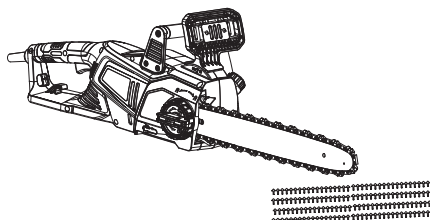

Fig. 11
1. Make sure the guide bar (9) and the saw chain (8) are in place when you check the oil delivery.
2. Start the product; keep it running at no load and check if the chain oil is delivered as shown in the figure (Figs.11, 12).